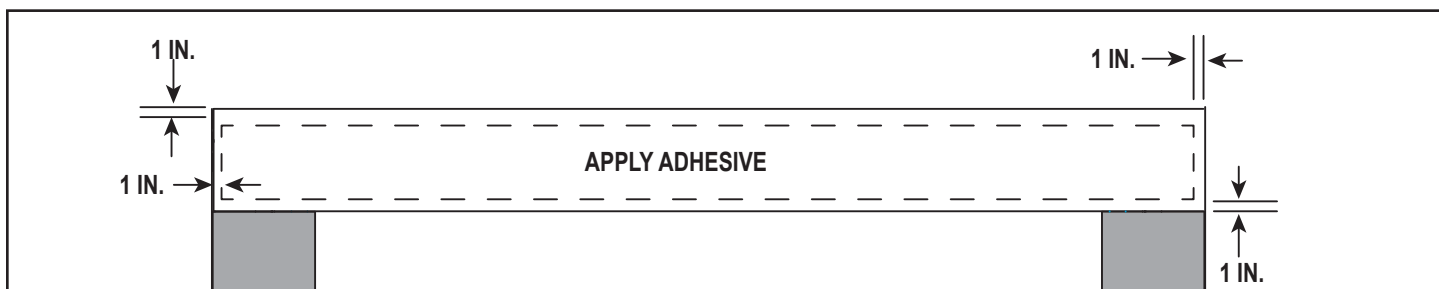

Figure 10.28. Apply Adhesive For Top and Bottom Granite
6. Apply a generous amount of adhesive to the back side of the bottom granite piece. The same method will be used for top and bottom pieces. See Figure 10.28 for appropriate zone to apply adhesive. **DO NOT** apply adhesive too close to the edges. Leave 1 in. around edges. Avoid leakage of adhesive around edges by not applying it too close to the edge of the granite. Place
8. Apply a generous amount of adhesive to the back side of the top granite piece. See Figure 10.28. The granite material is heavy and will need to be adequately secured to the wall.